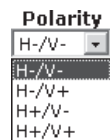

Figure 6-12 — Polarity drop box
1. Click in the Polarity field. A drop-down box appears (figure 6-12).